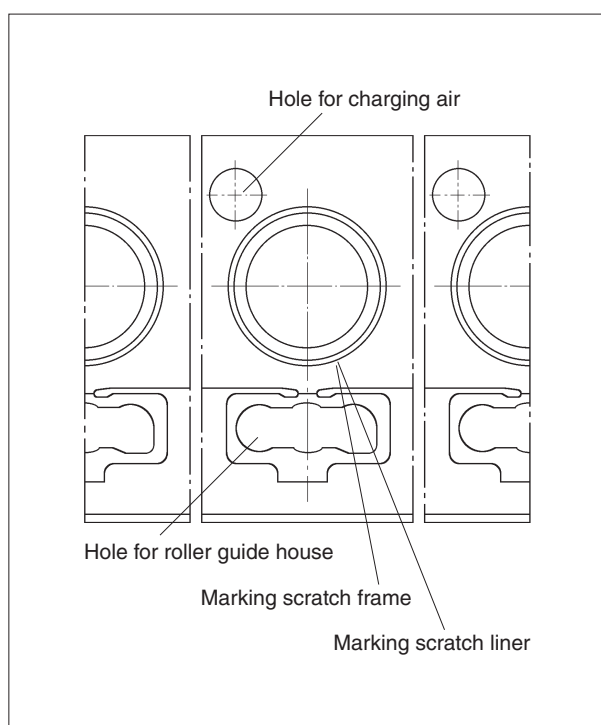

Fig. 1.
- 2) Prior to mounting of the lifting tool and dismounting from the frame, it must be ensured that the liner and frame have been marked to match, for the sake of a possible remounting of the liner, see fig. 1.